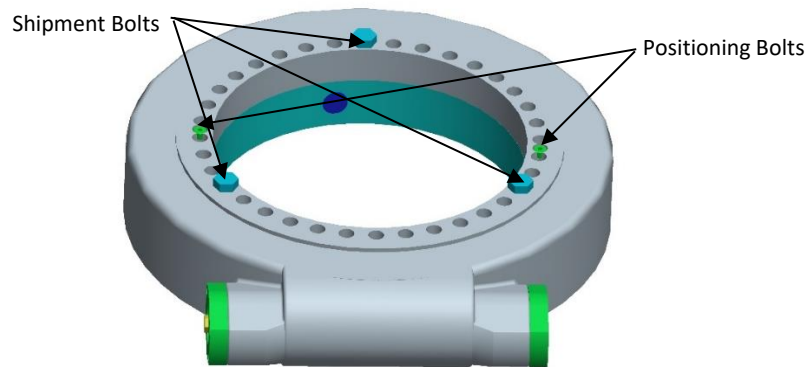

Figure2.1.1
- If there are shipment bolts, remove them before installation. The difference between shipment bolts and positioning bolts is shown in Figure 2.1.1.